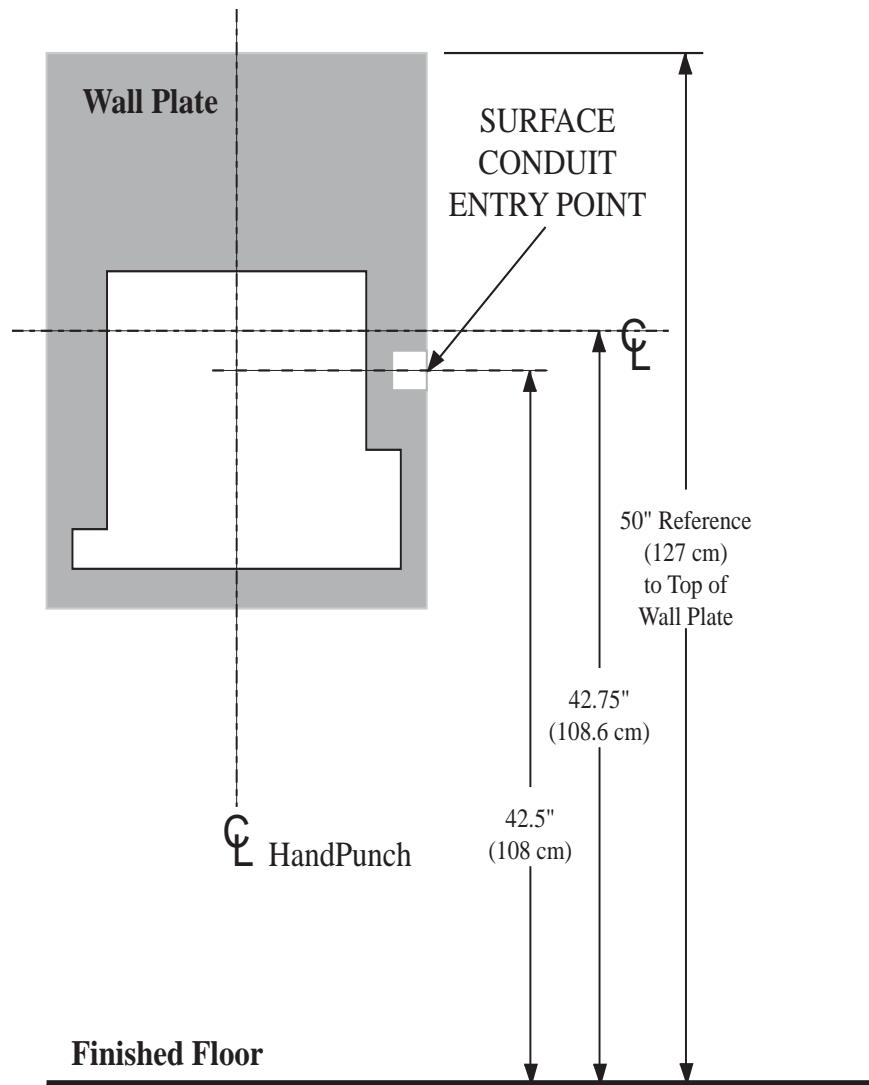
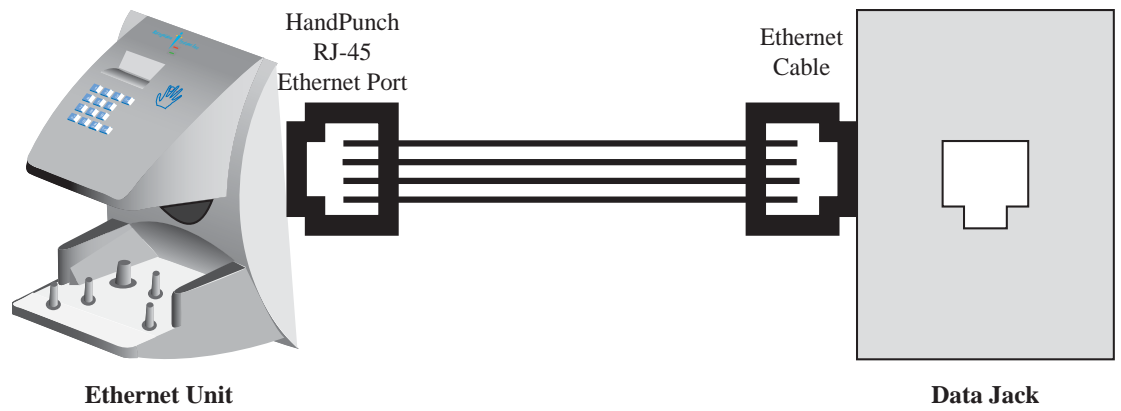

Figure 3-2: HandPunch Wire Routing Layout
Figure 4-3: Host PC to HandPunch Ethernet Connection
Before you begin installation, check the site blueprints, riser diagrams, and specifications for important information about HandPunch location and for other systems that connect to the HandPunch. Look for any existing wall preparations and wiring that other contractors may have installed for the HandPunch. A wire routing layout diagram (see Figure 3-2 on page 15) is provided to assist in planning wire routing.
To make the Ethernet connection, a data jack must be installed on or in the wall behind the HandPunch terminal. Position the RJ-45 jack location using the template provided in this manual (see Figure 3-2 on page 15). Figure 4-3 on page 19 a wiring diagram for a Ethernet to host computer connection.
1. Refer to Figure 3-2 on page 15 for a template diagram to assist in routing wiring.
Figure 4-3 on page 19 provides a Host PC to HandPunch Ethernet Network wiring diagram.